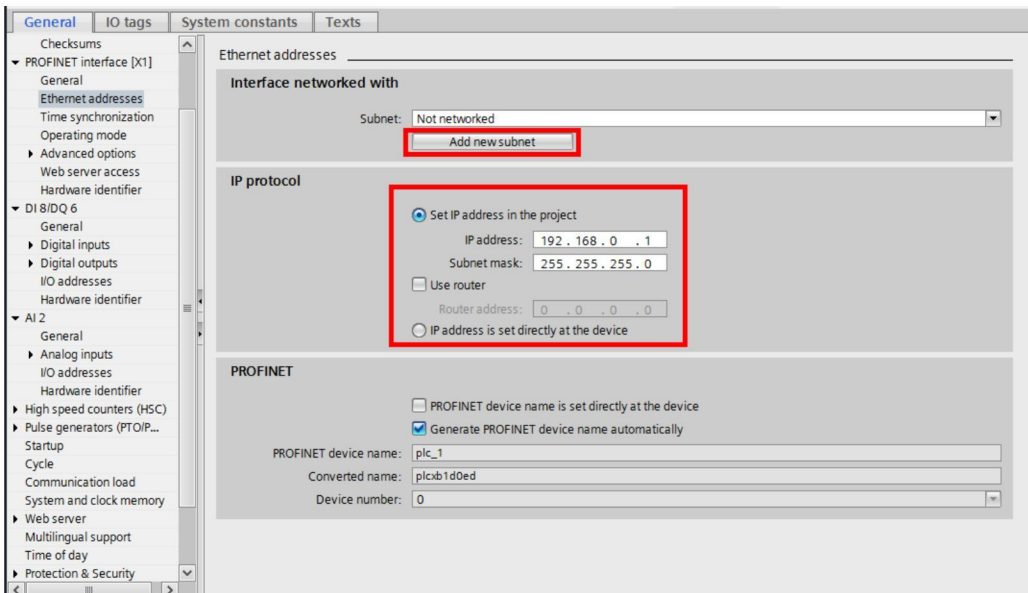

Figure 5 Configuring a new PROFINET network
- Click and hold the green box of the gateway icon and drag it to the PN/IE_1 network (see Figure 5) to establish a connection between the gateway and PLC.